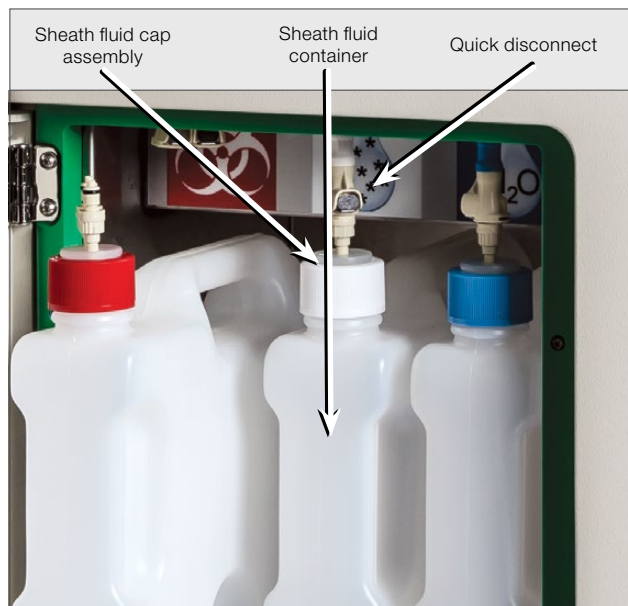

Fig. 1. S3e Cell Sorter fluidics with sheath fluid components noted.
1. Detach the quick disconnect from the sheath fluid cap assembly (Figure 1) by pushing down the metal button and lifting up the quick disconnect until it engages the magnetic holder. This will hold the quick disconnect away from the exchange area.